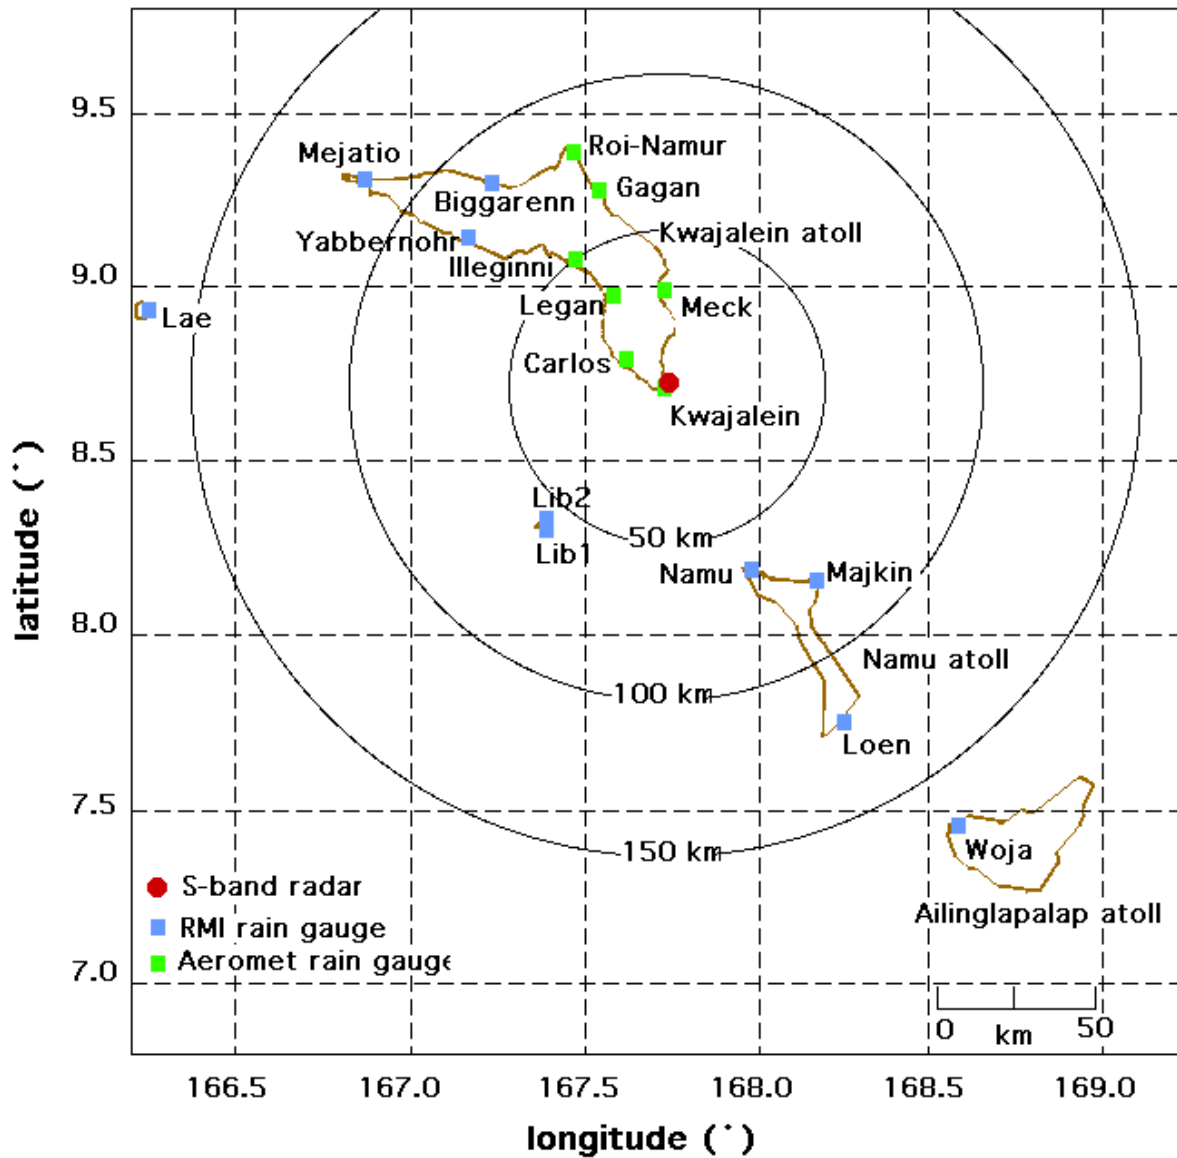

Fig. 1. TRMM Kwajalein ground validation (GV) network.
As part of the TRMM Kwajalein ground validation (GV) network, 17 tipping bucket rain gauges are currently operated by two agencies sponsored by the NASA Goddard Space Flight Center. The Republic of Marshall Islands Weather Service (RMI-WS), which is sub-contracted to the Pacific Region of National Weather Service (NWS), operates 10 gauges located at Lae-Lae, Woja-Ailinglapalap, Lib1-Lib, Lib2-Lib, Namu-Namu, Majkin-Namu, Loen-Namu, Mejatio-Kwajalein, Yabbernohr-Kwajalein, and Biggarenn-Kwajalein. Aeromet Inc. which is sub-contracted to the US Army Kwajalein Missile Range (KMR) operates 7 gauges located in the Kwajalein atoll, Carlos, Meck, Legan, Illeginni, Gagan, Roi-Namur and Kwajalein (Fig.1).